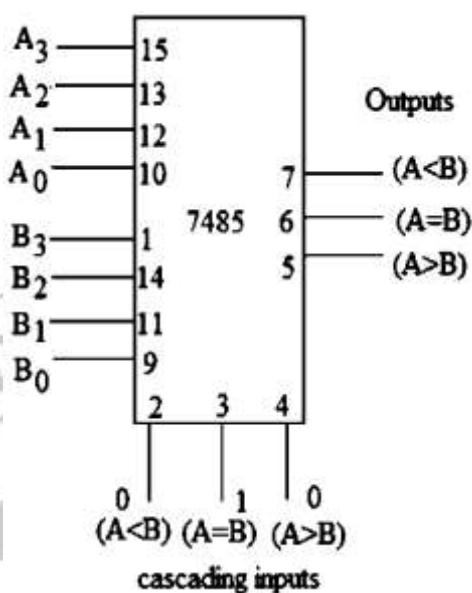

Fig 9.2: Circuit Diagram : 4 bit magnitude comparator
3. Make the connection as per fig 9.2.